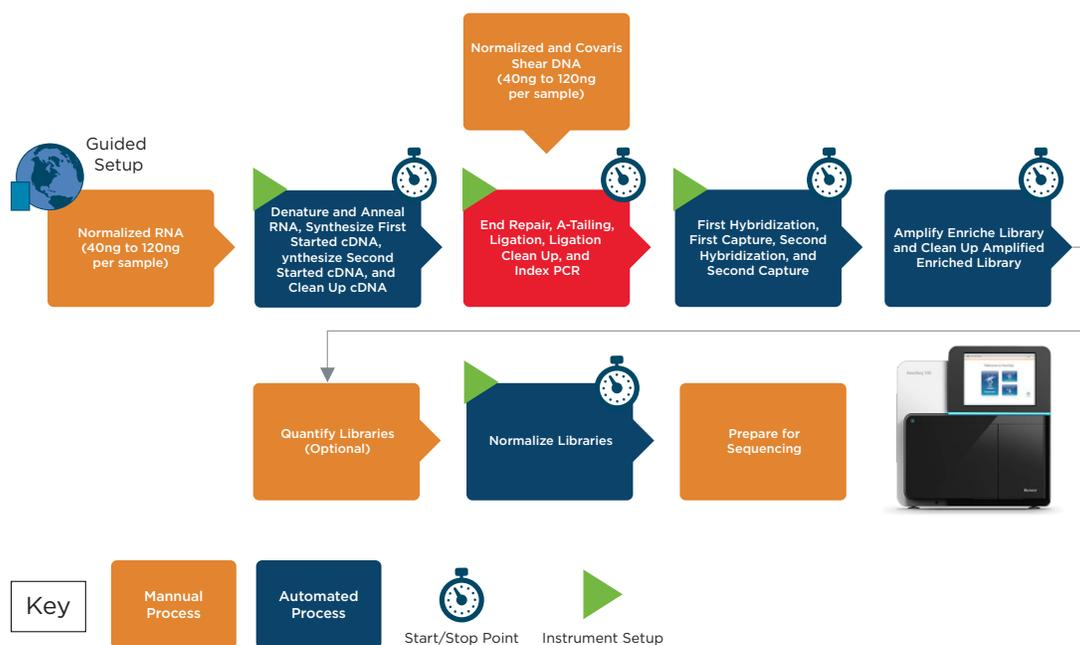

Figure 1. The Illumina TruSight® Oncology 500 DNA/RNA Automation App Template Workflow.
The Illumina TruSight® Oncology 500 DNA/RNA Automation Kit App Template allows for the creation of Illumina TruSight® Oncology 500 DNA and RNA libraries compatible with Illumina sequencing platforms. The user will first create a batch in the Biomek NGenius Portal Software. If running RNA samples as part of the batch, the user will then add pre-normalized RNA samples to the input reaction vessel (RV) and place the input reaction vessel on the Biomek NGenius system. The Biomek NGenius system will then perform Denature and Anneal RNA, Synthesize First Strand cDNA, Synthesize Second Strand cDNA, and Clean Up cDNA in a single run. If running DNA samples, the user will then shear the DNA samples using a Covaris® instrument as detailed in the Illumina TruSight® Oncology 500 Reference Guide. Covaris® sheared DNA samples can be loaded onto the library preparation reaction vessel and prepared into Illumina libraries through End Repair/A-tailing, Adapter Ligation, and Index PCR. Regions of interest are hybridized to probes, magnetically captured, cleaned, and eluted. Enriched libraries are then PCR-amplified. An optional fluorometric quantification step may be used to ensure there is sufficient library available before Bead-Based Normalization. After Normalization, the libraries are ready to pool for sequencing. The specific automated and manual steps of the workflow are detailed in Figure 1 below.